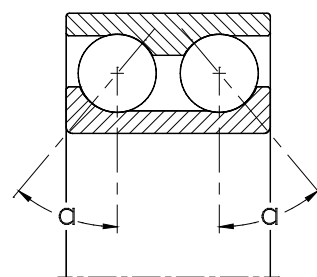

Fig. 2.4
**Double row angular contact ball bearings** (fig. 2.4) are similar in their internal design to two single row angular contact bearings mounted in a back-to-back arrangement.